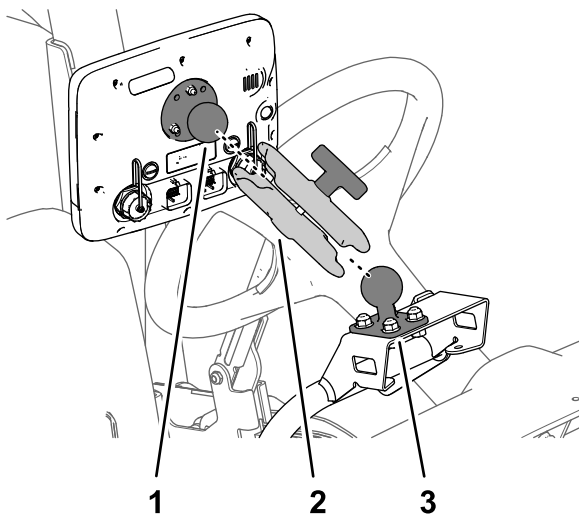

Figure 164
3. Assemble the ball fitting of the monitor and the ball mount on the machine to the monitor arm (Figure 164).
4. Adjust the monitor so that it is viewable from the machine operator's position and tighten the knob of the monitor arm by hand (Figure 164).